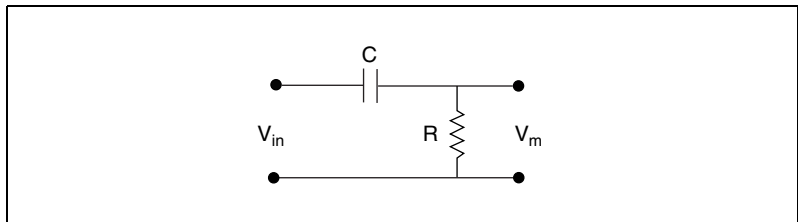

Figure 5-11. Transfer Function of a Simple Series Circuit
Figure 5-11 shows the transfer function of a simple series circuit consisting of a resistor (R) and capacitor (C) when the voltage across R is assumed to be the output voltage (V_m).
Using the circuit shown in Figure 5-11, you can use a two-component circuit to build a simple RC filter with analog input, analog output, or digital input. You can build a single-ended analog input RC filter with pads F and B for one channel and pads G and D for the next channel. You can build a differential analog input RC filter with pads F and E.